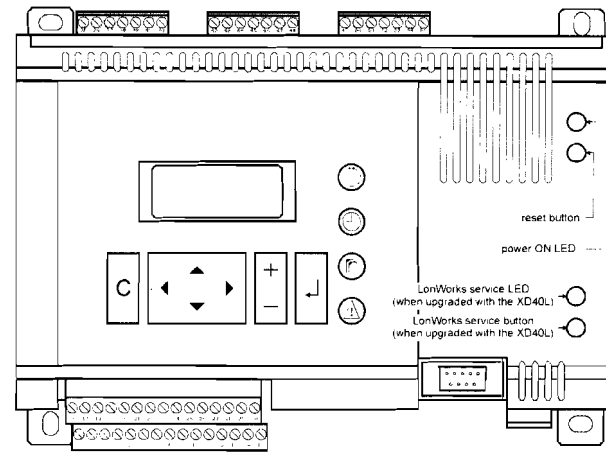

Fig. 4. The XL40A2MMI
- eight analog inputs, four analog outputs, and fourteen digital inputs all arranged in a single, low-voltage, double-decker terminal block located at the left side of the front of the housing (see Fig. 4), and also